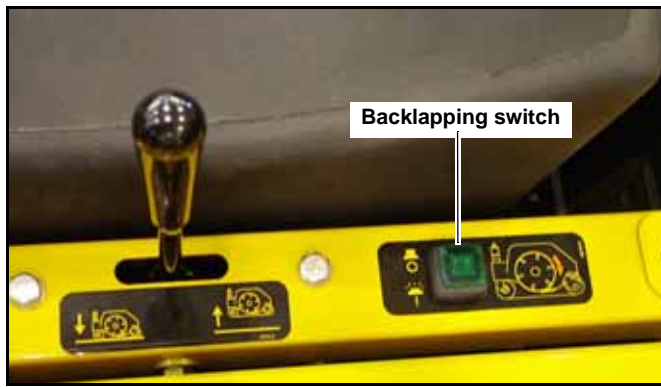

Figure 4-61
8. Push the backlapping switch (Figure 4-61). The switch will glow green. Lower the cutting units to the ground. Push the cutting unit lift lever forward and release. The reels should begin rotating in the backlapping direction.